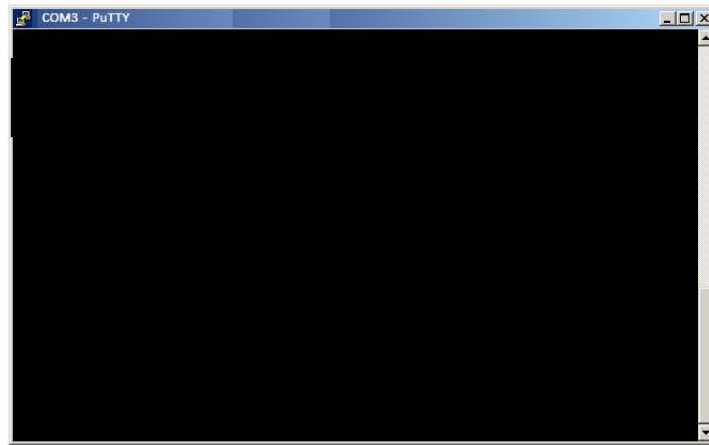

Figure 43. PuTTY Terminal Window
- e. After clicking the **Open** button, the terminal window opens in which you enter desired commands (see Figure 43).